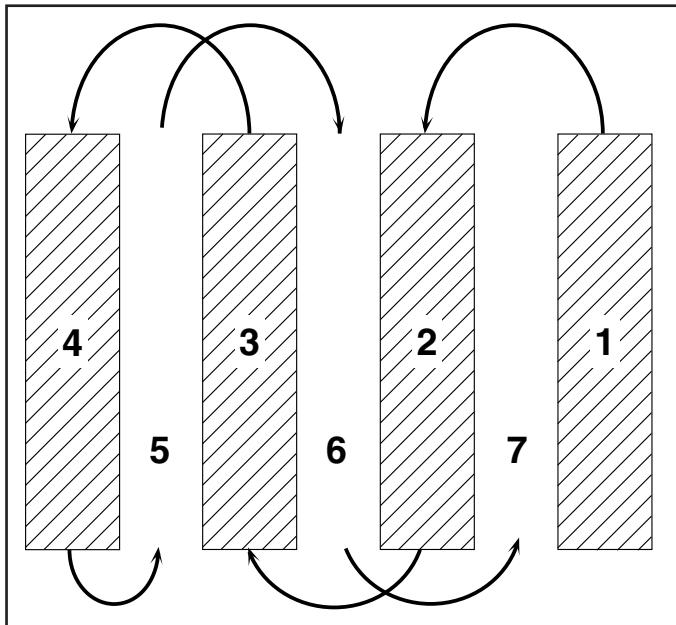

Fig. 13
- You will find tilling much easier if you leave a row un-tilled between passes. Then go back between tilled rows. (See Fig. 13) There are two reasons for doing this. First, wide turns are much easier to negotiate than about-faces. Second, the tiller won't be pulling itself, and you, toward the row next to it.